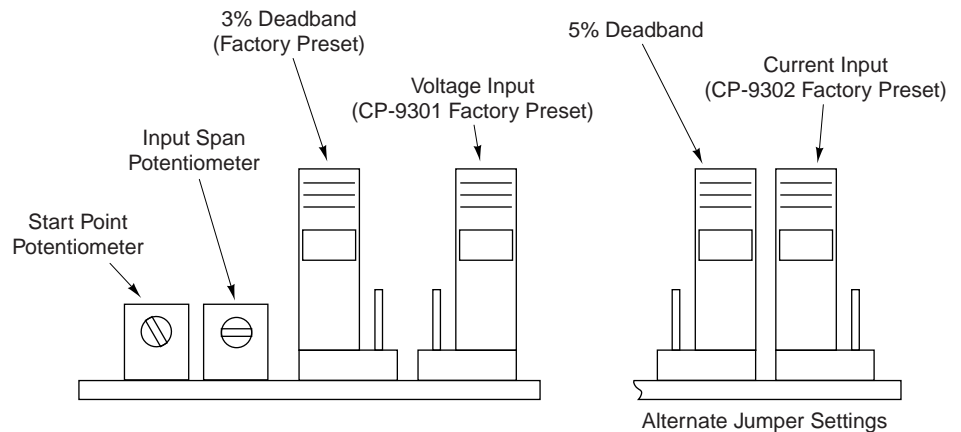

Figure-9 Input and Deadband Jumpers, and Input Span and Start Point Potentiometers.
3. Remove the screw that secures the cover to the drive, then remove the cover. This provides access to the start point and input span adjustment potentiometers, as well as the input and deadband jumpers (Figure-9).
5. When reconfiguring a CP-9302 for voltage input, reposition the input jumper to the voltage input setting, as shown in Figure-9.
5. When reconfiguring a CP-9301 for current input, reposition the input jumper to the current input setting, as shown in Figure-9.